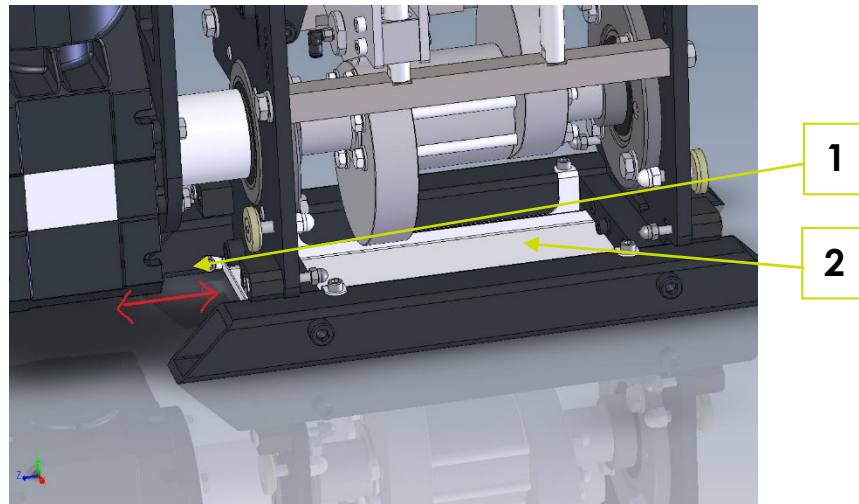

Fig. 8-1: Dismounting the contamination collection tray
1. Unscrew fillister head screw M6x12 (1) (Fig. 8-1: Dismounting the contamination collection tray).
2. Push out the contamination collection tray (2) either forward or back in the in the direction of the arrow.